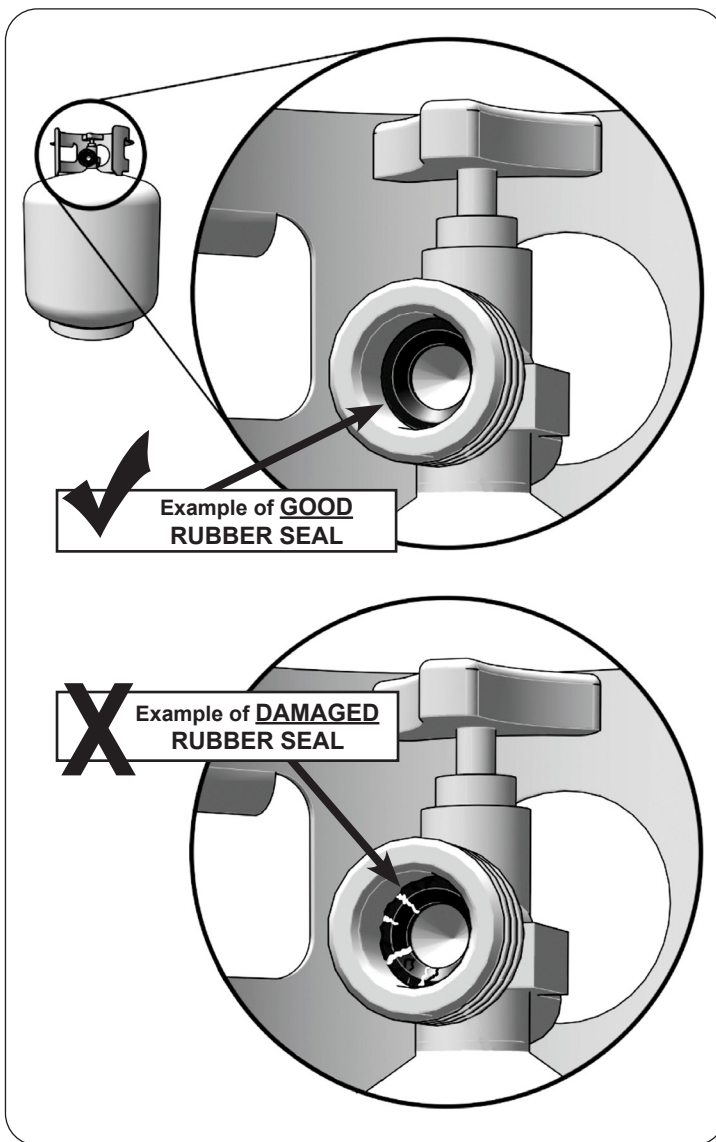

Fig. 9-1 Inspect rubber seal
- D. **CGA 791 connections on LP gas cylinders:** The cylinder face elastomeric face seal element (rubber seal) on these devices could, over time, show marked and visible damage or deterioration that might cause a leak even with the connection tightened. A visual inspection for the seal must be carried out every time a LP gas cylinder is replaced or refilled. Any LP gas cylinder showing signs of damage or deterioration as illustrated in Fig. 9-1, including visible cracks and pitting, must be replaced.